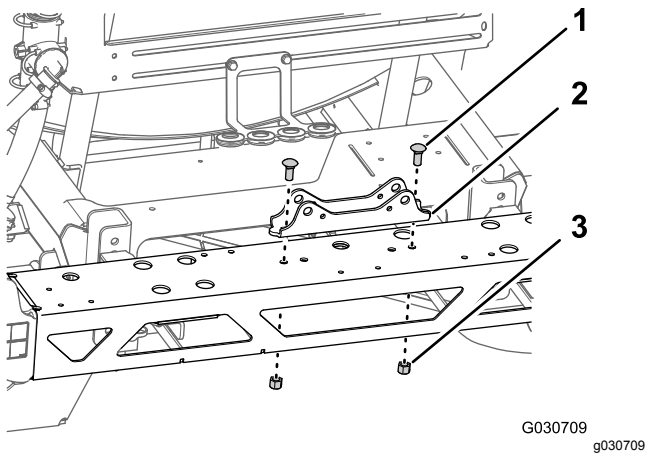

Figure 80
3. Remove 2 carriage bolts (1/2 x 1-1/4 inches) and 2 flange locknuts (1/2 inch) that secure the cylinder mount to the center boom section and remove the mount (Figure 80).